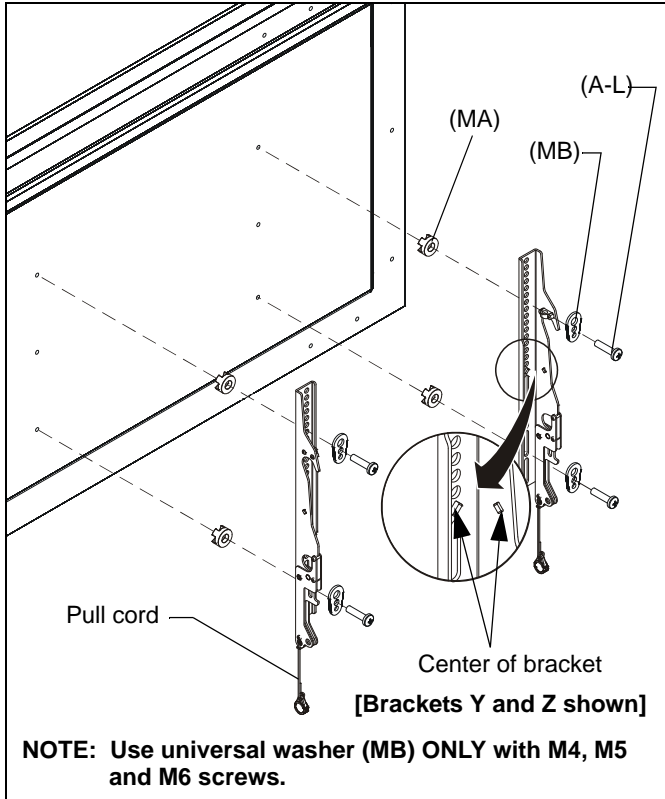

Figure 5
1. Align the center of the bracket (Y and Z or AA and BB) with center of screen. (See Figure 5)
2. Select correct screws, nesting spacers (if necessary) and universal washers (if required) from the hardware bag (A-M) and attach brackets to back of screen. (See Figure 5)